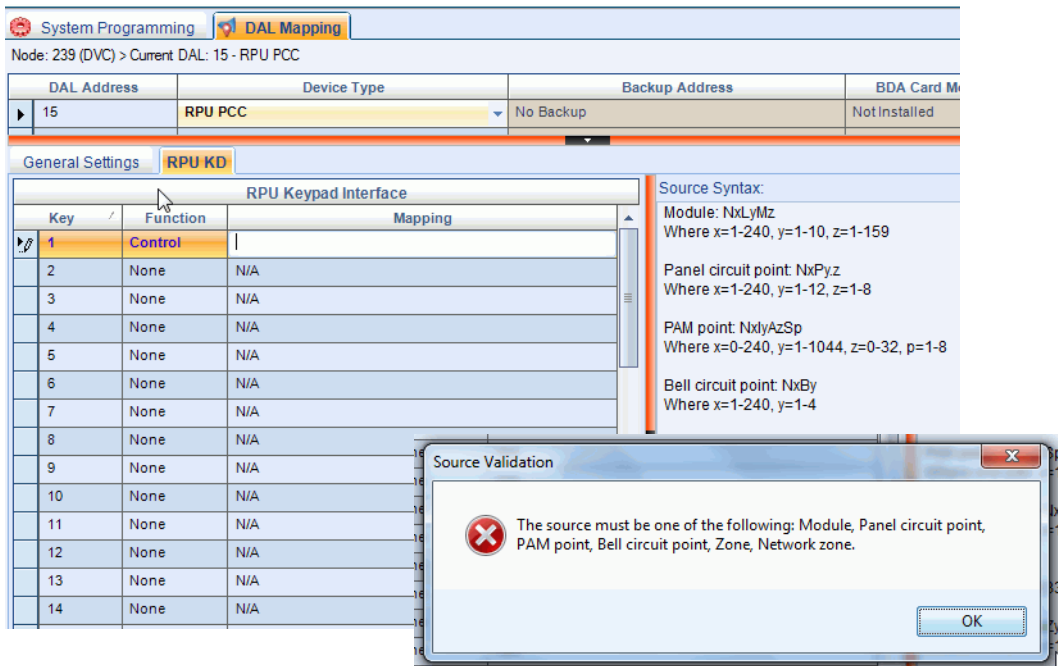

Figure 4.9 DAL Mapping - RPU-KD Keypad Assignment
- **MAPPING** - Enter an address to be controlled, monitored, or disabled as set in the Function field. This must be the address of a specific module, detector, panel circuit point, zone, DAL speaker circuit, or PAM point. VeriFire Tools will validate the mapping’s syntax and source type on entry. Once a Function type is selected, the right side of the screen will display a summary of correct syntax (relevant rules for mapping an appropriate device). The settings will be shared with all the DVC-RPUs connected to the DAL network at the network node address. The syntax for each type of entry is in Table 4.1 below; this is also available on the right side of the VeriFire Tools screen as shown in Figure 4.9.